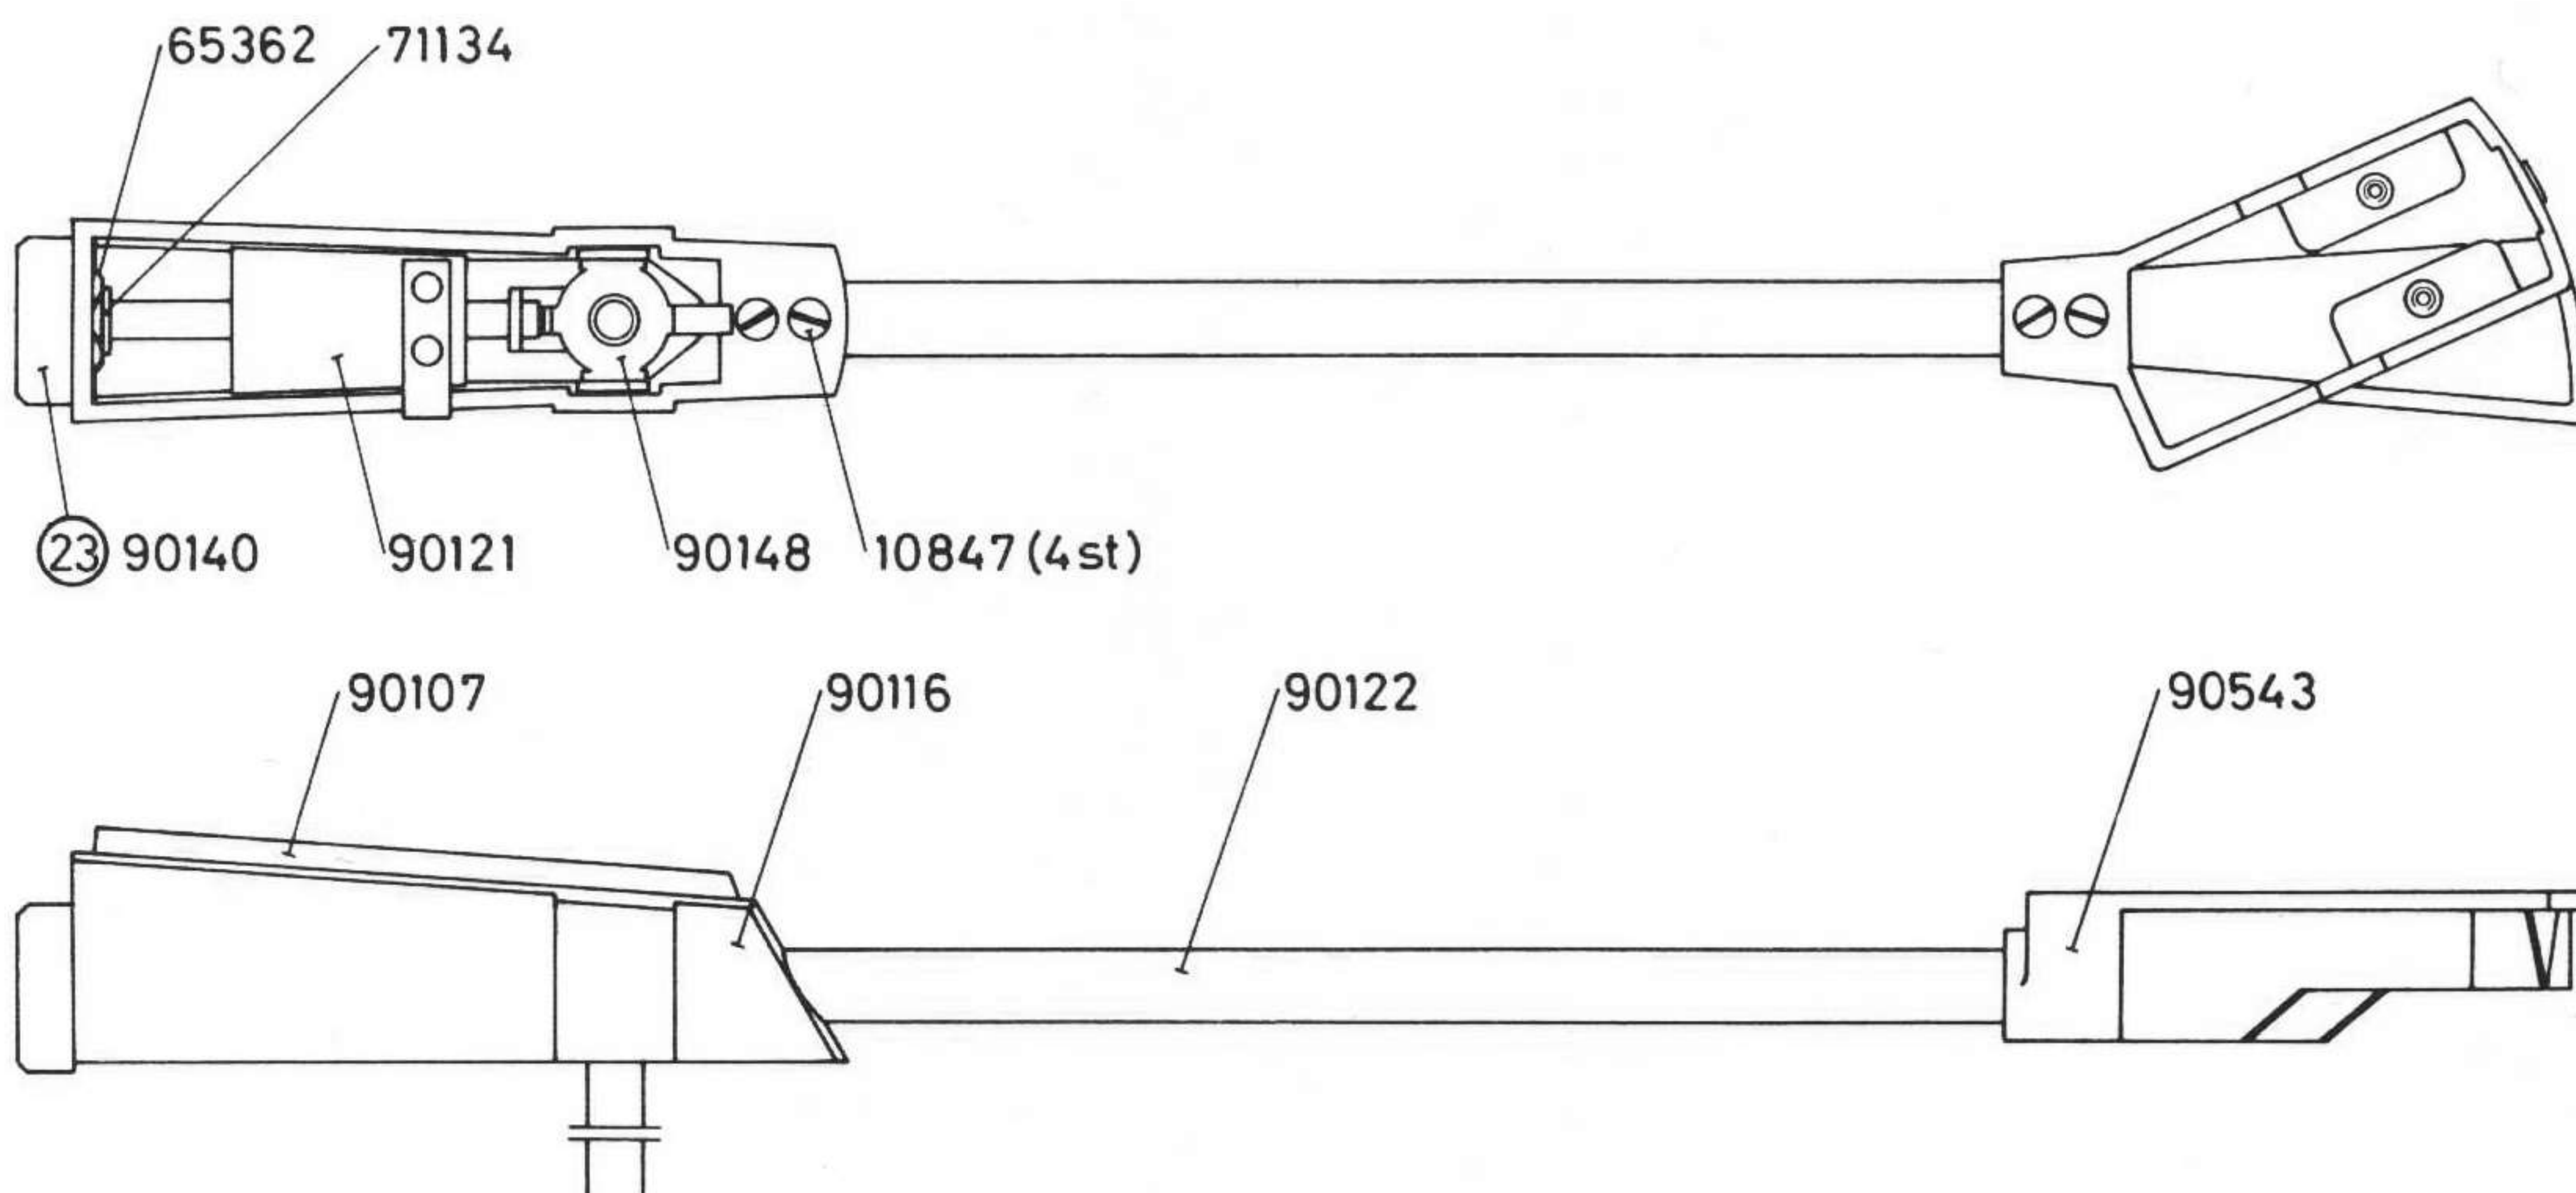

Fig. 3
RATTEN (23) FIG 3, BAKTILL PÅ TONARMEN VRIDES SÅ ATT NÅLTRYCKSKRAFTEN BLIR 2,5 - 3 POND, VILKET AVLÄSES PÅ EN MÄTKLOCKA, SOM ANSÄTTES PÅ LÄMPLIGT STÄLLE, OCH SOM HAR SAMMA AVSTÅND FRÅN TONARMSLAGRET SOM NÅLSPETSEN.